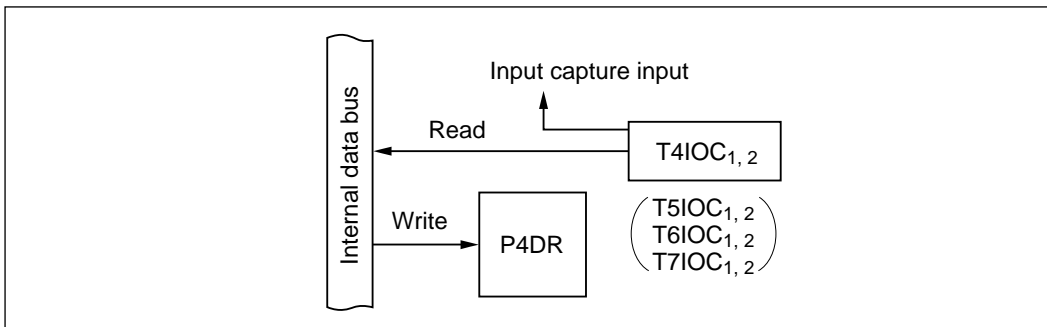

Figure 10-26 Input Capture Combined with General-Purpose Input (Modes 1 to 7)
(5) Timer Input Combined with General-Purpose Input (Modes 1 to 7): Figure 10-26 shows a block diagram illustrating the input capture function when combined with general-purpose input. Table 10-19 indicates register read/write data. An input capture pin can also be read as an input port, to monitor the timer input level at T4IOC₁, T4IOC₂, T5IOC₁, T5IOC₂, T6IOC₁, T6IOC₂, T7IOC₁, or T7IOC₂.